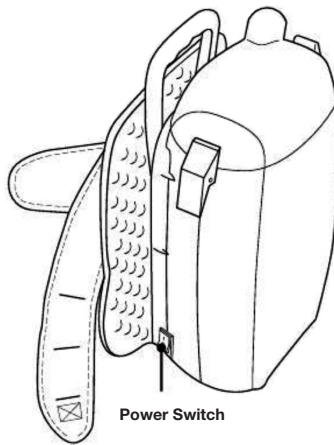

Fig. 12
5. Turn the unit ON/OFF by pressing the switch located near the base of the unit (Fig. 12).